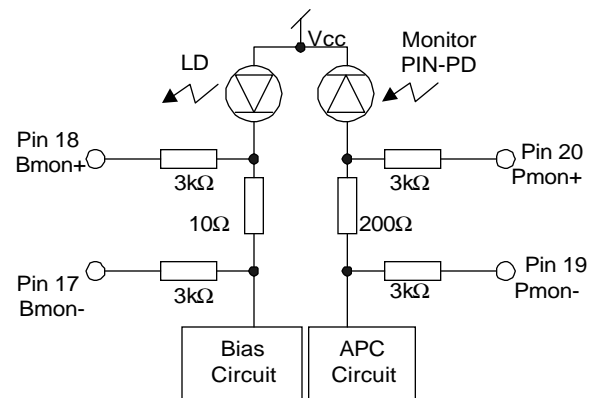

Figure 3 Bmon and Pmon Interface
2. Refer to figure 3 for details of Bmon and Pmon outputs.
8. The Laser Bias Monitor Current and Rear Facet Monitor Current are calculated as ratios between the corresponding voltages and current sensing resistors,  $10\Omega$  and  $200\Omega$ , as shown in the figure 3.